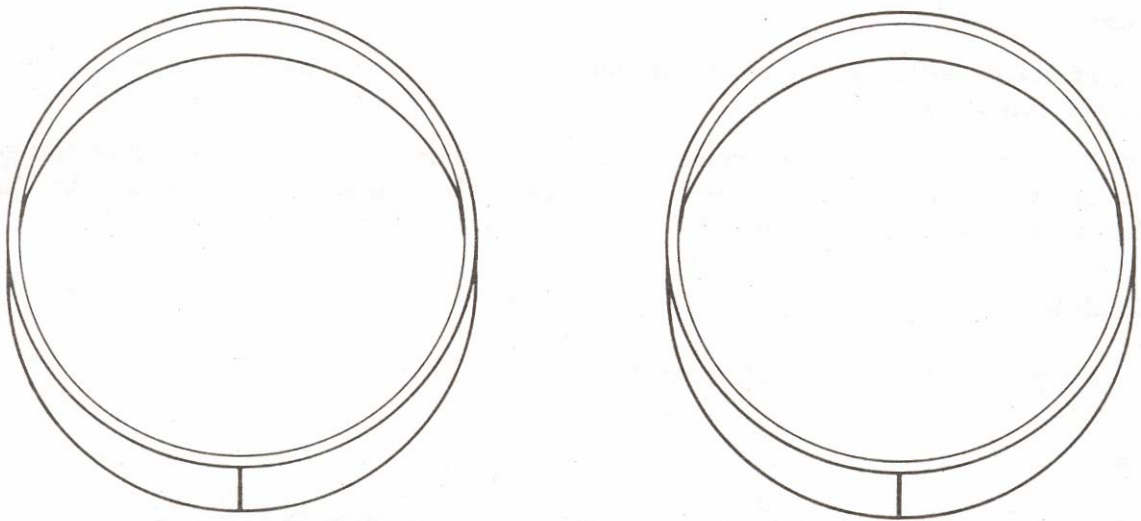

Figure 15.4. Petri plate templates. Draw in the position of colonies on each replica plate.
2. Draw the positions of the mutant colonies on each replicate plate in the templates provided in Figure 15.4. Mutant colonies are the large colonies. These should not be confused with the “background” growth of normal cells which can sometimes survive the copper, but tend to grow very slowly.